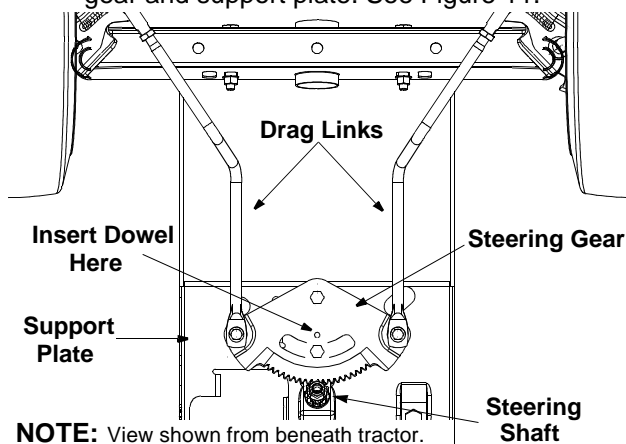

Figure 11
- Place the steering wheel in position for straight ahead travel. Insert a 1/4" dowel up through aligning holes in both the steering gear and support plate. See Figure 11.